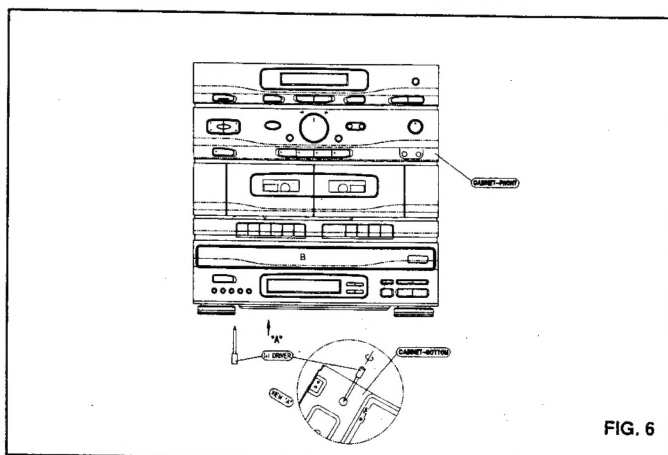

FIG. 6
6. HOW to open tray of CD changer when the power is turned off - FIG. 6 -